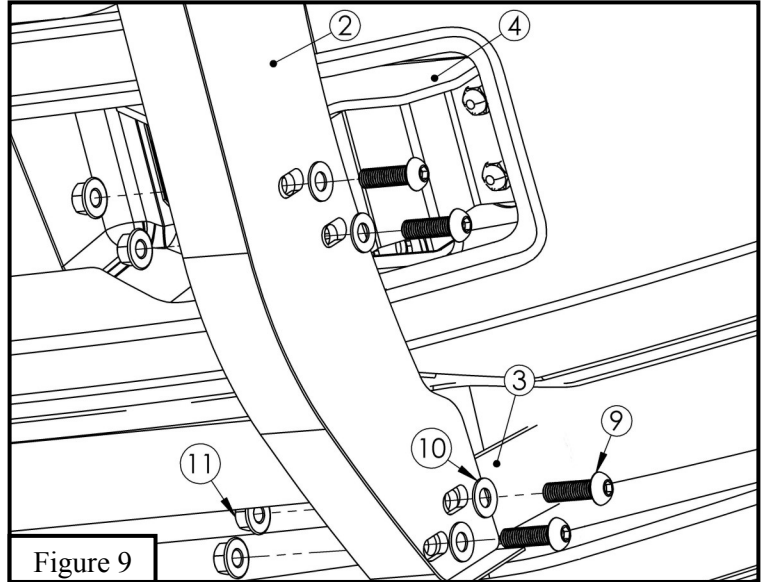

Figure 9
8. Locate the Sportsman/HDX Grille Guard and with assistance align it with the previous installed brackets. Loosely secure using (8) M12 cup washers, (8) M12 serrated flange nuts and (8) M12 hex socket button head screw. **See Figure 9.**